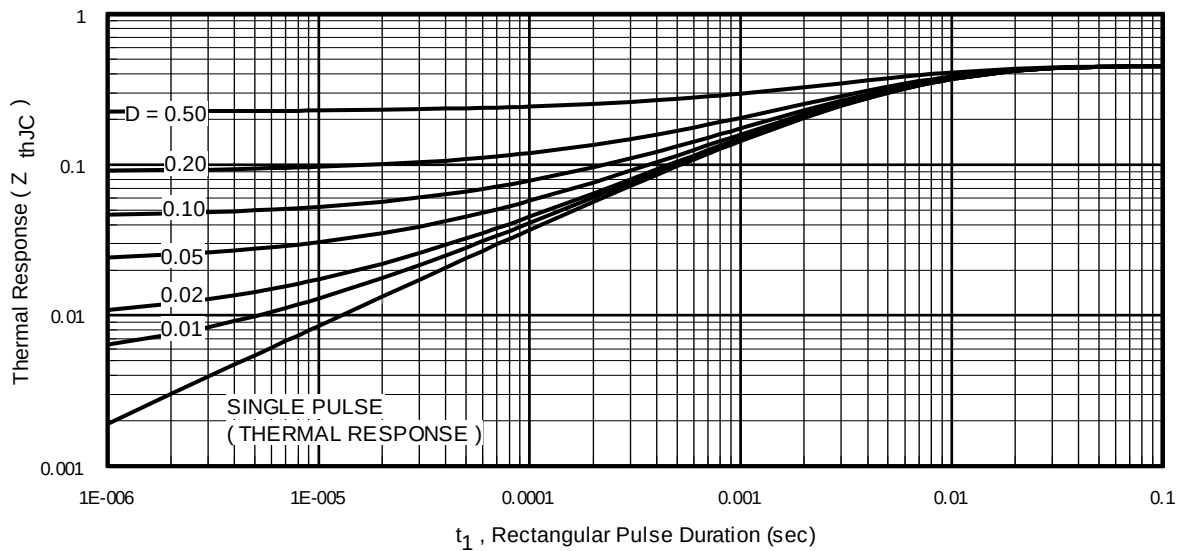

**Fig 11.** Maximum Effective Transient Thermal Impedance, Junction-to-Case
- ① Repetitive rating; pulse width limited by max. junction temperature. (See fig. 11).
- ② Limited by  $T_{Jmax}$ , starting  $T_J = 25^\circ\text{C}$ ,  $L = 0.24\text{mH}$ ,  $R_G = 25\Omega$ ,  $I_{AS} = 75A$ ,  $V_{GS} = 10V$ .
$Z_{thJC}(D, t_{av})$  = Transient thermal resistance, see figure 11)